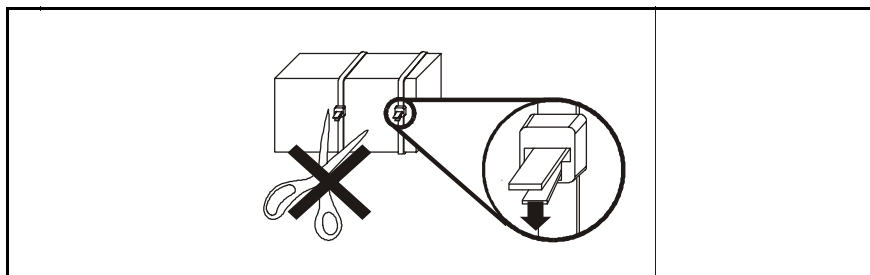

Figure 3-3 Battery Cable Ties
After removing the rear access panel, **do NOT cut the ty-wraps** securing the Main Battery to the rear housing. They have been designed to be releaseable, and the monitor must be opened to replace them. See Figure 3-3.
- 3) Depress release tab on each ty-wrap lock (see Figure 3-3) and pull ty-wrap tongues out of locks to free battery.
- 6) Depress release tab on each ty-wrap lock (see Figure 3-3) and pull ty-wrap tongues out of locks to permit removal of speaker cable. Note routing of speaker cable for use in reassembly.